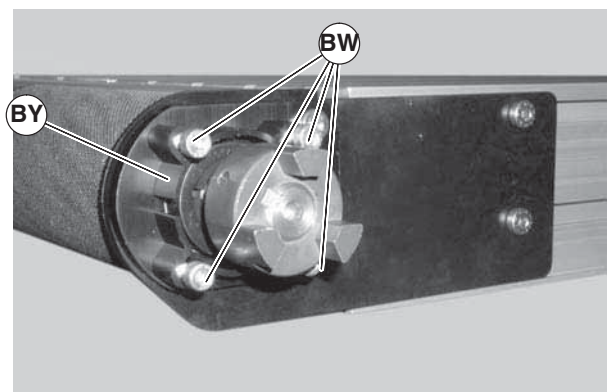

Figure 56
- d. Remove the four (4) lock screws (Figure 56, item BW) and the short side drive guard (BY).